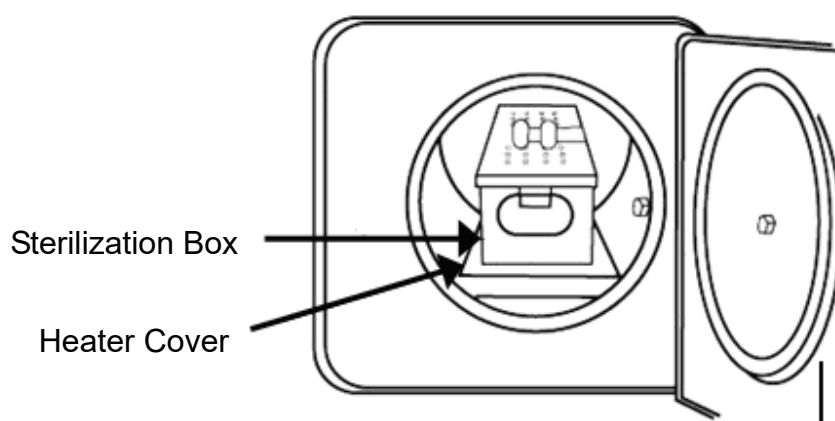

Figure 33 – Sterilization Box
- D. Install the Sterilization Box as shown in Figure 33. (optional accessory)